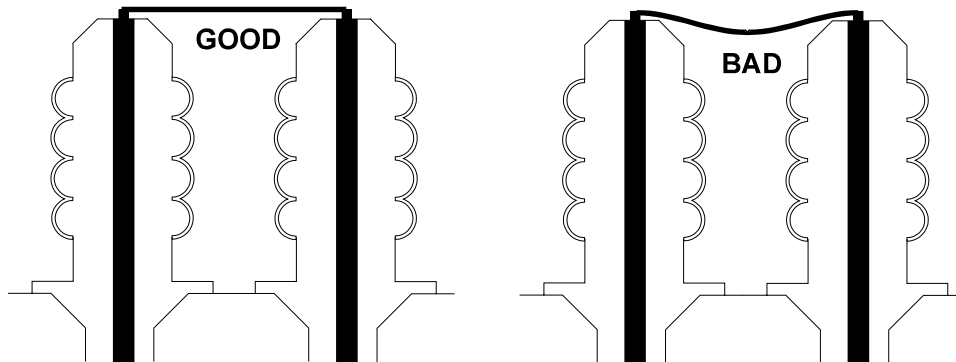

FIGURE 2-1 CORRECT METHOD OF SHORTING TRANSFORMER BUSHINGS
5. Short the high voltage bushings with a bare braided jumper. This is done to eliminate the inductance effect of the winding and create symmetrical balance of voltage gradient on the H and L sides of the transformer. The jumper should not be allowed to sag (refer to Figure 2-1).